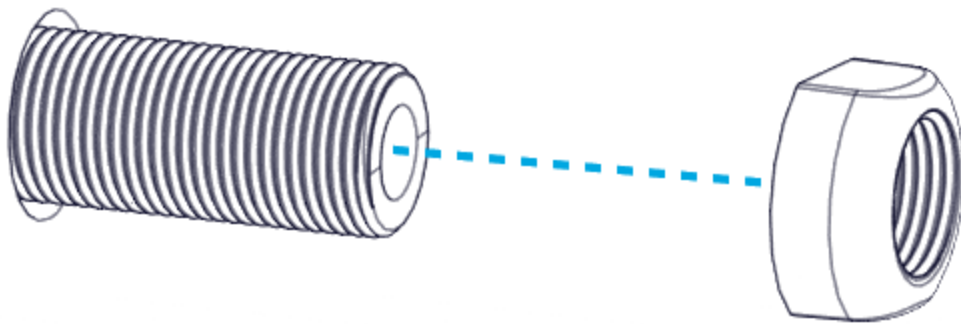

Figure 57 – Outboard Cable Gland Nut Installation
5. Install the Nut on the outboard side of the transom. Tighten until the Nut contacts the transom. Do not overtighten (Figure 57 – Outboard Cable Gland Nut Installation).